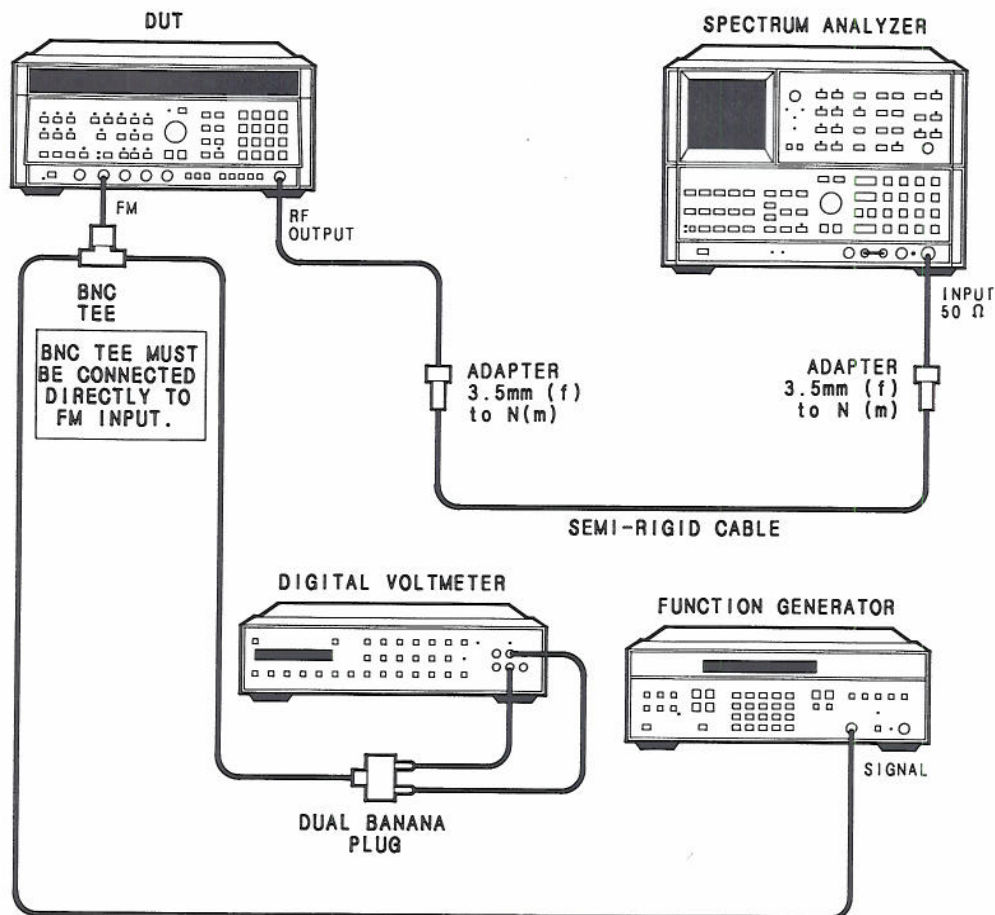

Figure 4-22. FM Accuracy Setup
1. Connect the equipment as shown in Figure 4-22, FM Accuracy Setup. The BNC Tee should be connected directly to the DUT's FM input BNC.